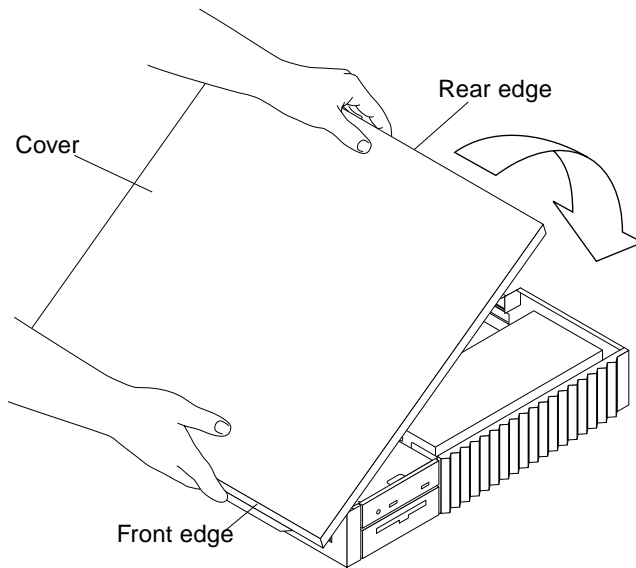

FIGURE 7-4 Replacing the Cover
2. **Grasp the cover by the front and rear edges (FIGURE 7-4).**
- 4. Lower the cover onto the chassis (FIGURE 7-4).**